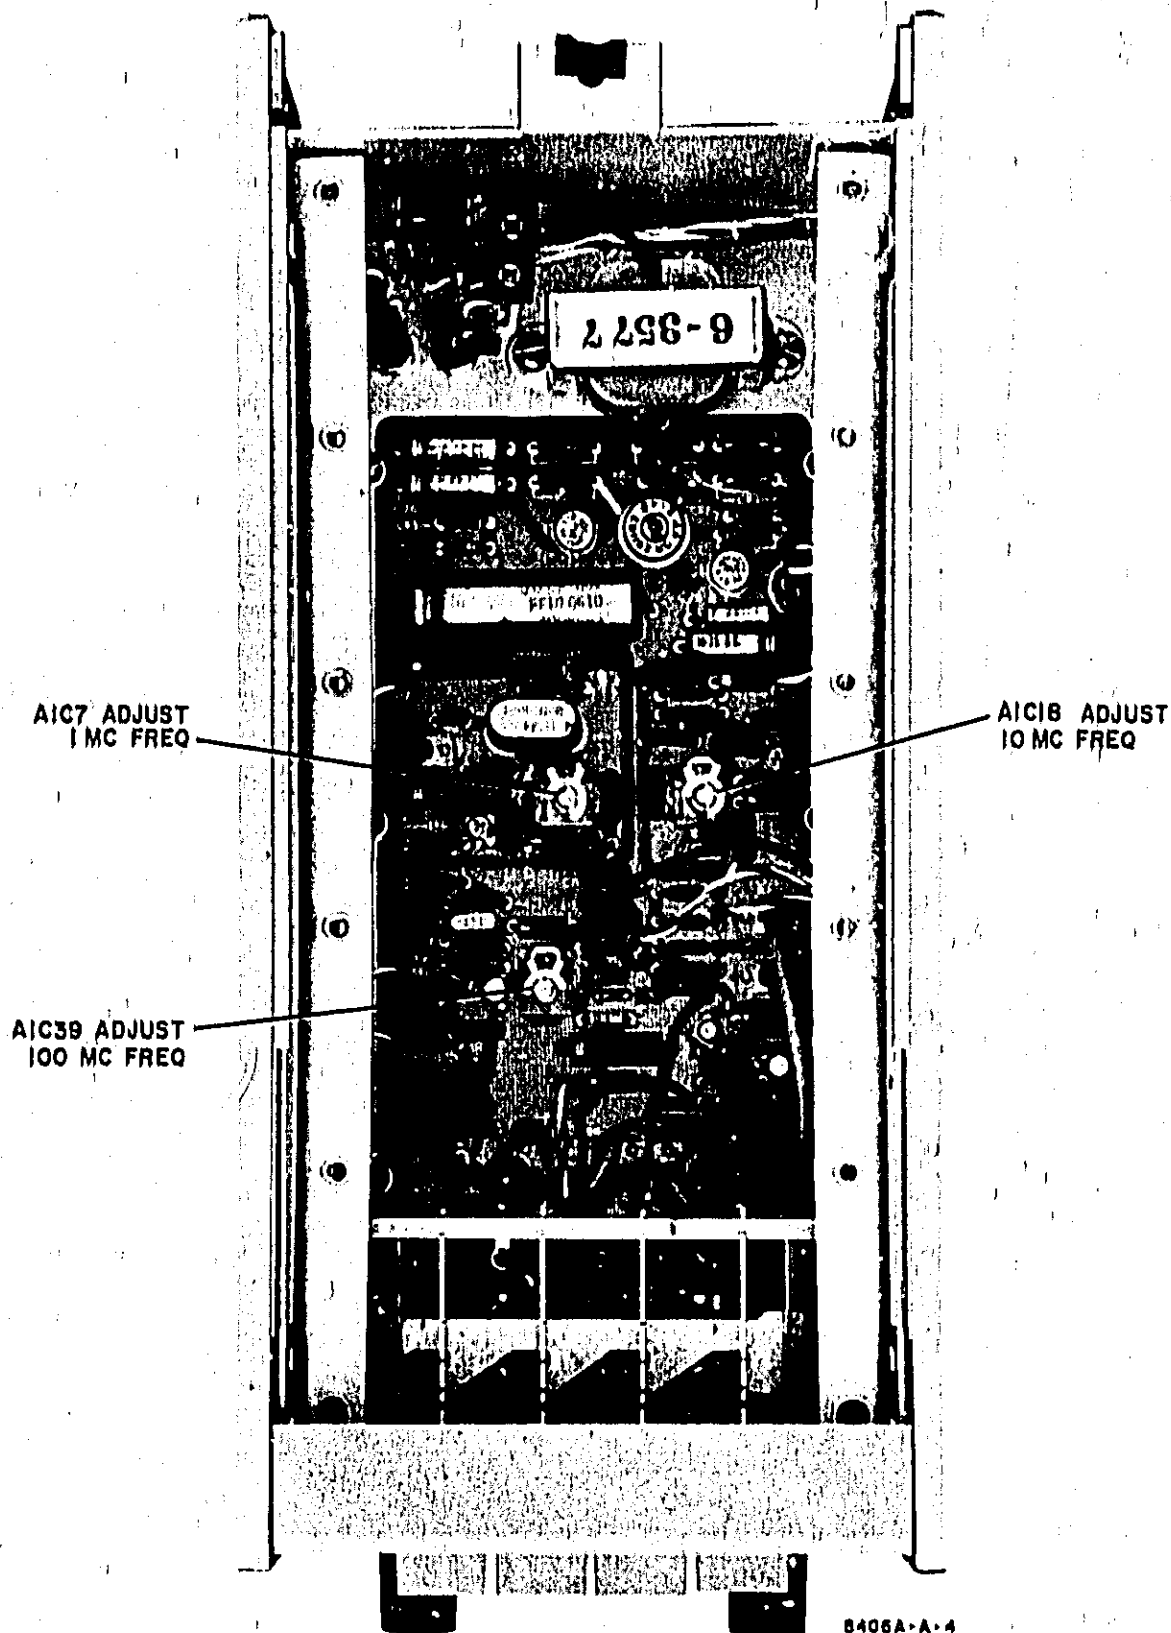

Figure 5-2, Location Diagram
d. Connect a dc and an ac voltmeter to the -14 volt supply. This is a violet wire on top of the printed circuit, third terminal from the rear (see Figure 5-2 for location).
a. Set Spectrum Analyzer to a center frequency of 1 Gc with spectrum width of 2 Gc. The frequency comb should be smooth in output. If not, tune A1T1 (see location diagram, Figure 5-2) with a Walsco 2547 tuning wand for a stable frequency and A1T2 for maximum flat output in the 400-Mc region as the OUTPUT AMPLITUDE control is varied from maximum to minimum.
b. Connect counter and tune A1C30 (see location diagram, Figure 5-2) for 100-Mc frequency.